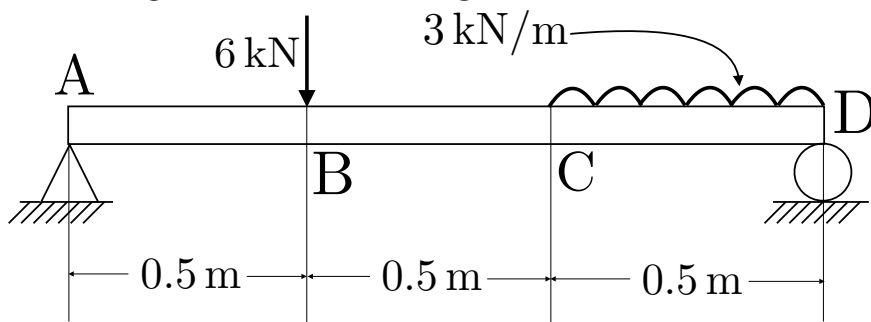

Figure 6: A Beam Acted on by a Point Load and a Uniformly Distributed Load
6. Answer the following questions for the beam shown in Figure 6.